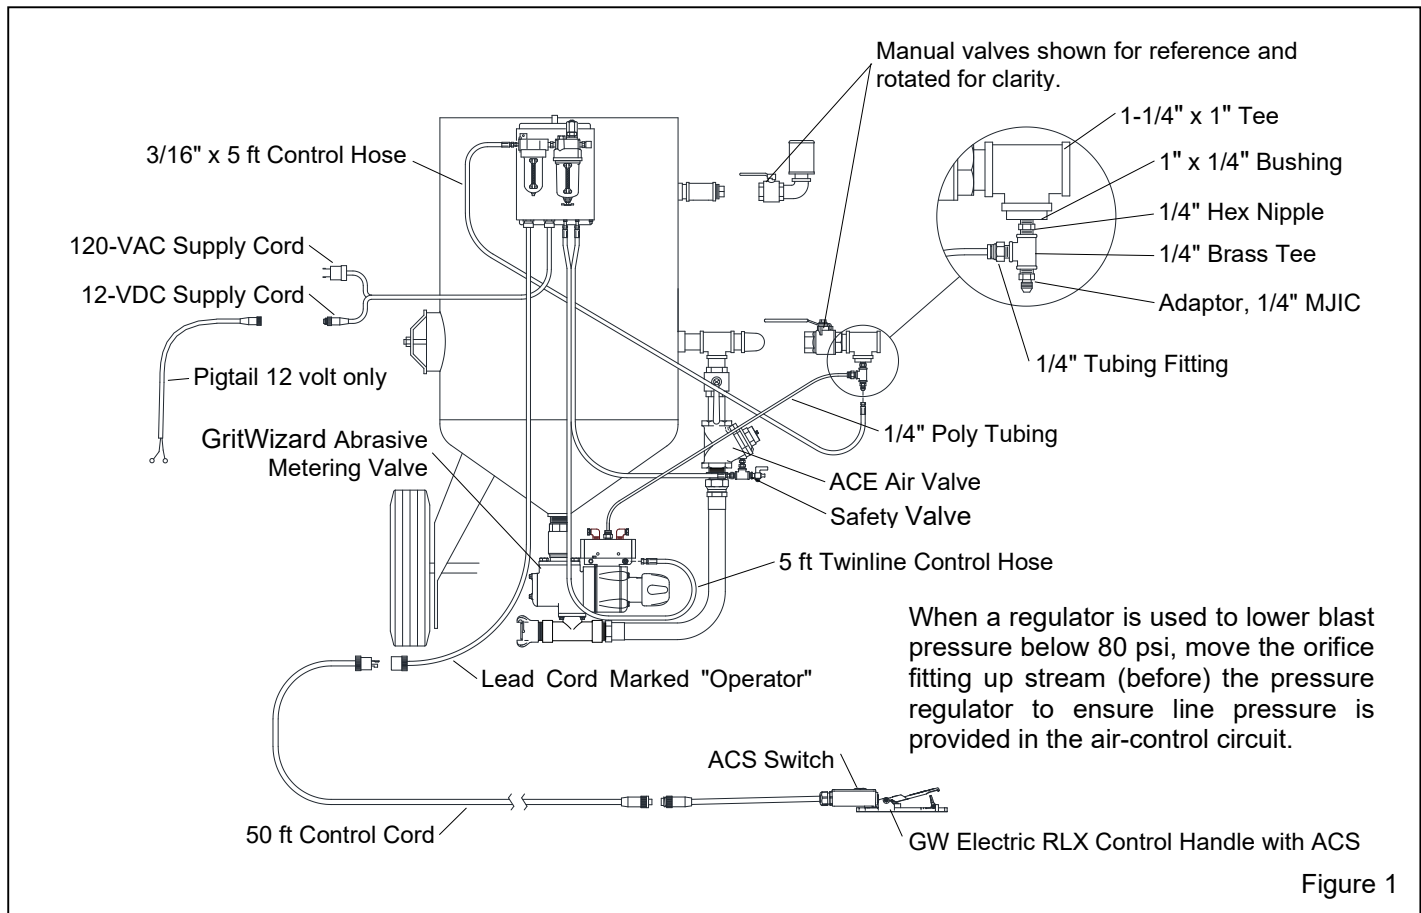

Figure 1
1.4.1 The principal components of the electric remote control are shown in Figure 1, The system include the electric control panel (120 VAC units have a transformer to
1.6.6 Abrasive cutoff switch (ACS): An abrasive cutoff switch (ACS) is a standard feature of the GritWizard Remote Controls. The ACS switch is wired into the box at the back of the GW Electric RLX Control Handle, as shown in figures 1 and 4. The operator uses the switch to close the abrasive valve independently of the air valve, so air without abrasive exits the nozzle. This feature is used to clear abrasive from the blast hose or to blow-down the blasted surface. Refer to *Section 3.6: Operation of the Abrasive Cutoff Switch*.
Additional fittings may be required to connect the valve to some blast machines and piping configurations. Use 1-1/4-NPT Schedule 40 nipples, to connect the fittings, as shown in Figures 1 and 2.
2.2 Blast Machine with Factory Installed Controls: If the remote control system was factory installed onto a new blast machine, confirm the control hose and tubing connections in Figure 1, then skip to Section 2.4.
permitting trapped abrasive to empty. For the muffler to work properly, it must be installed with the body facing up, as shown in Figures 1 and 2.
2.4 Control Hose Connections – Figure 1